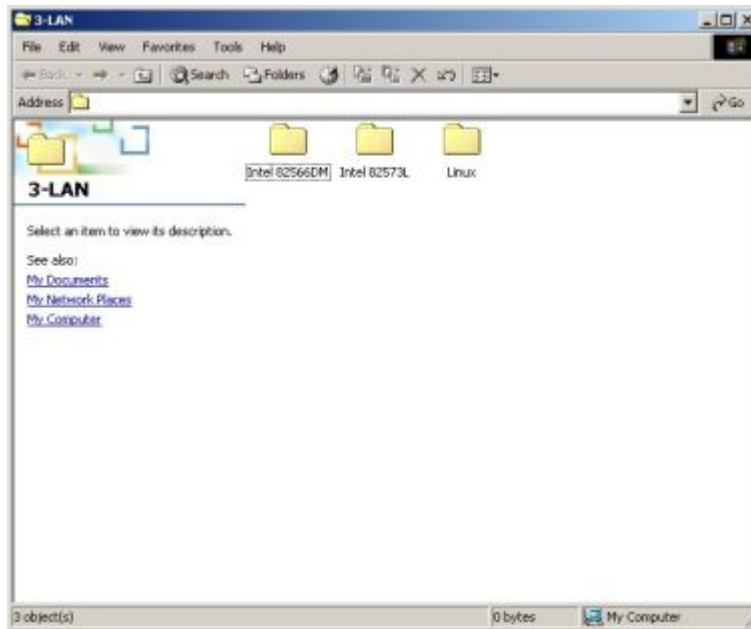

Figure 7-19: Intel® 82566DM Driver Directory Icon
Step 2: The window in **Figure 7-19** appears.
Step 3: Click on the **Intel® 82566DM** directory icon in **Figure 7-19**.